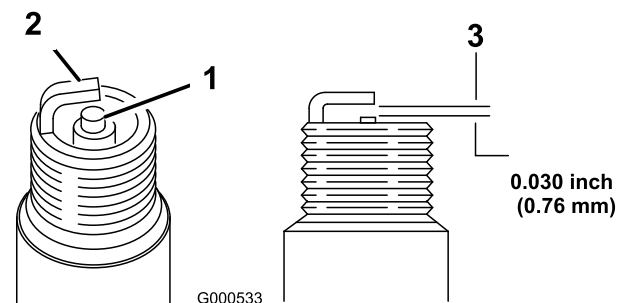

Figure 25
1. Inspect the spark plug (Figure 25).
2. Check the gap between the center and side electrodes (Figure 25). Bend the side electrode if the gap is not correct.